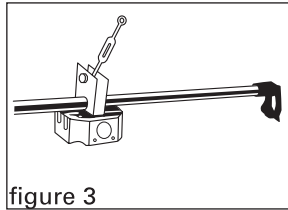

figure 3
3. Using the electrical box bracket provided, loosely attach the box to the 24" support bar with the locknut (figure 3).